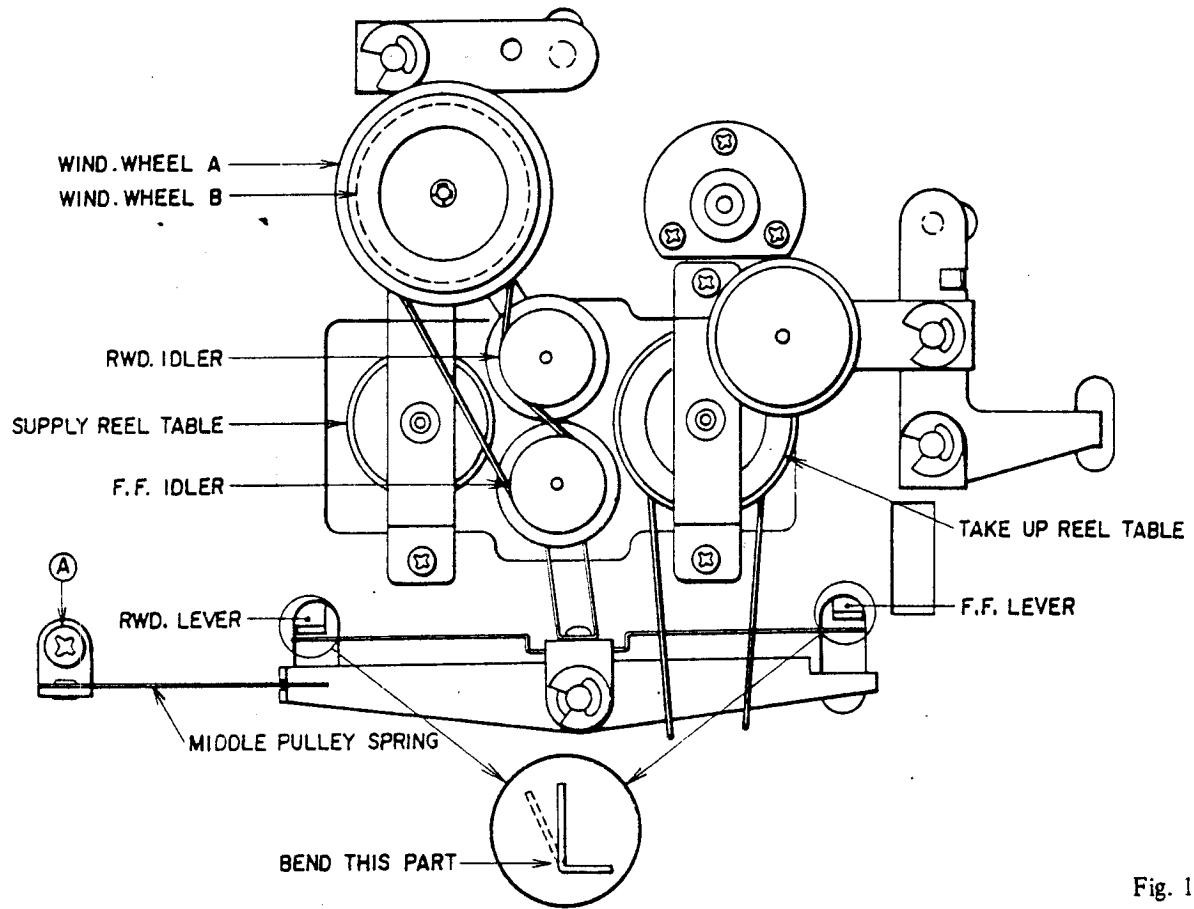

Fig. 10
6. F. FWD AND RWD. IDLER BLOCK POSITION ADJUSTMENT (See Fig. 10)
- 2) In case Winding Wheel B fails to stop perfectly, because the Rewind Idler is not properly pressing against the supply reel table, adjust the bending of rewind lever extremity (see Fig. 10) so that the rewind lever applies stronger pressure to the supply reel table.